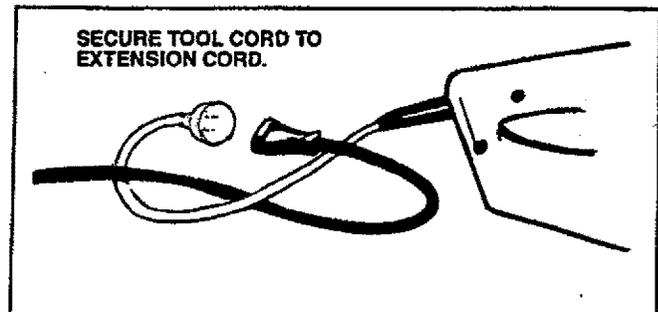

Figure 7
- Secure the tool cord to the extension cord as shown in Figure 7 to prevent disconnection.